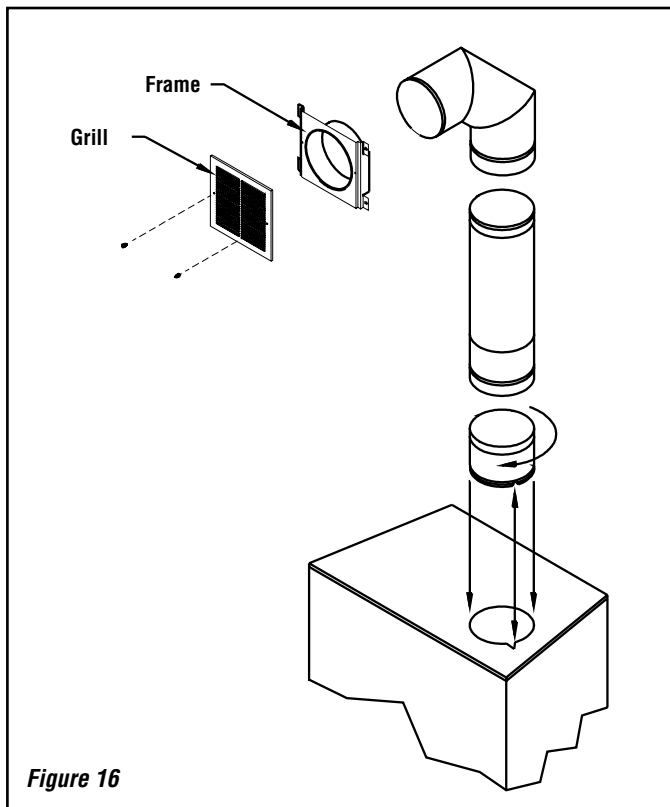

Figure 16
(See Figure 16)
1. Remove the plates closing up the 8" diameter holes on top of the fireplace. Then, cut the insulation in order to obtain two 8" dia. openings. Fix the adaptors on the fireplace openings by turning clockwise (Figure 16).